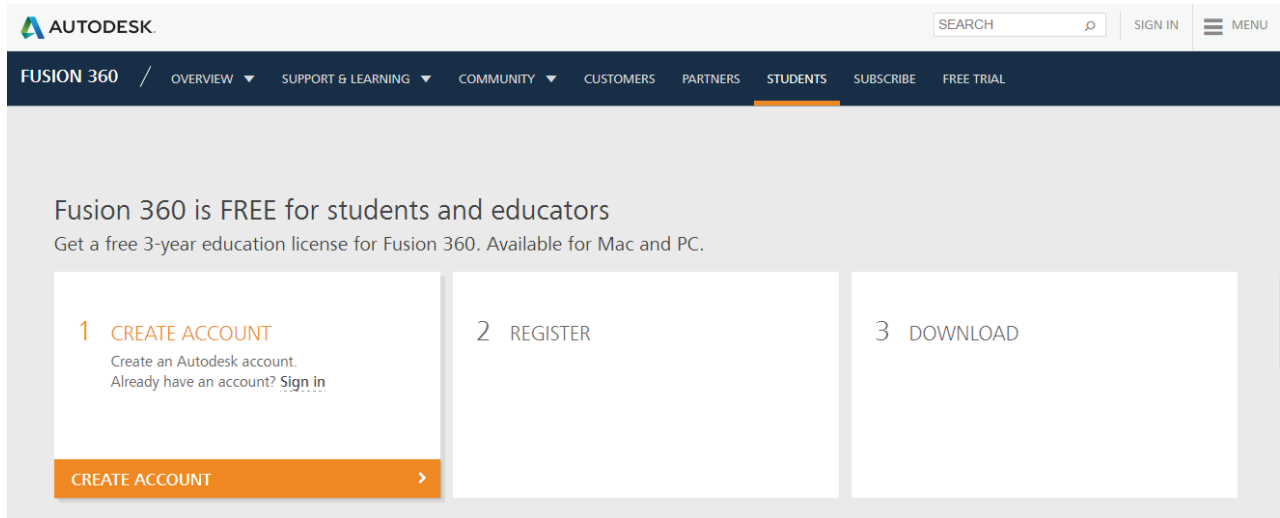

Figure-2. Autodesk website
- Connect your pc with the internet connection and then login to <http://www.autodesk.com/products/fusion-360/students-teachers-educators> as shown in Figure-2.